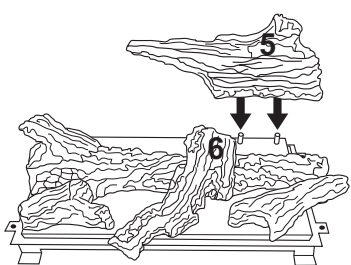

Figure 41 - Installing Logs No. 5 and No. 6
4. Place log #5 (right rear log) onto pins on right rear of burner (see Figure 41). Rest log #6 (middle crossover log) on top of log number 2 as shown in Figure 41.